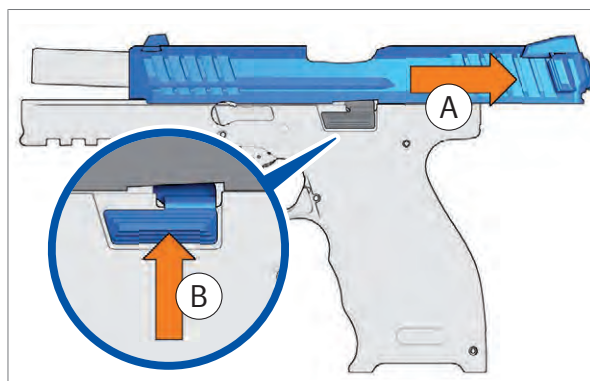

Fig. 16: Lock slide
1. Pull slide all the way back and hold it there (*Fig. 16*).
2. Press slide release upwards to lock slide (*Fig. 16*).